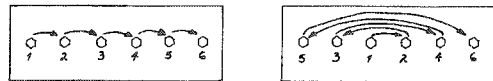

Fig. 3.52 Acceptable tightening methods.
11. When the cutters are accurately set, tighten the nuts fully in the correct sequence. Ideally you should start in the centre and work out, alternating from left to right until all the nuts are tight. Other acceptable methods are to start at the end (left or right) and work across to the other side (**Fig. 3.52**). By working in one of these three methods any twist bow or distortion in the cutters is flattened out. If a bow is trapped in the middle after the two ends have been tightened, the steel has nowhere to go.